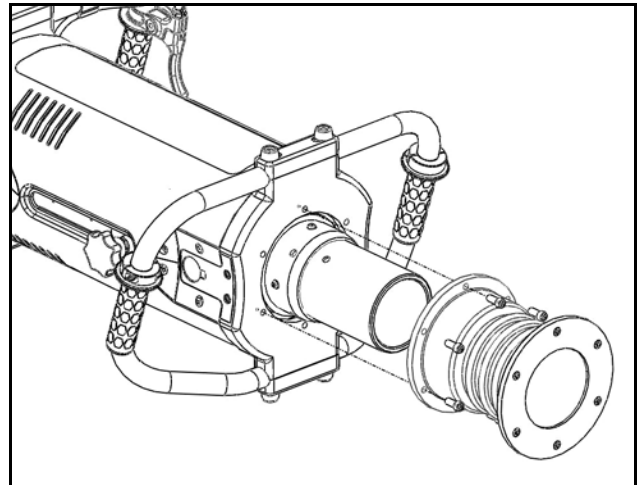

Figure 1 – Foot Removal
1. Remove the six (6) cap screws securing the Foot to the CIRT tool using the 3/16" hex driver (see Figure 1).
2. To reinstall the Foot, line it up with the holes and tap it gently with the dead-blow hammer until it is seated against the front handle plate. Partially thread in all six (6) cap screws before tightening them in any order.